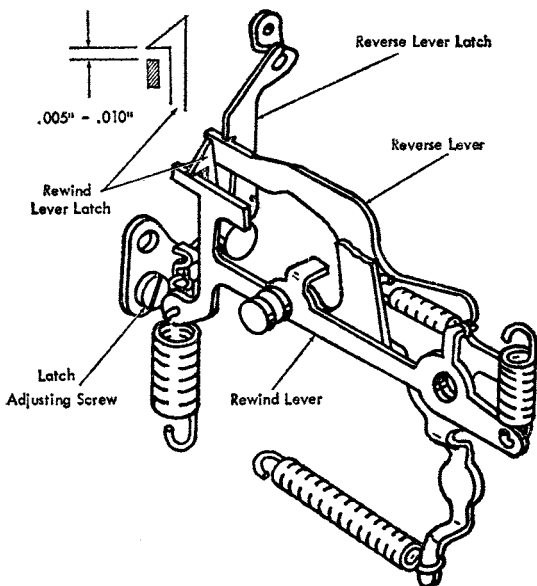

Figure 40. Rewind Lever Latch
**10. REWIND LEVER LATCH.** With the reverse lever latched down, position the rewind latch vertically by moving its mounting plate. There should be a clearance of .005" to .010" between the rewind lever and the rewind-lever latch (Figure 40).